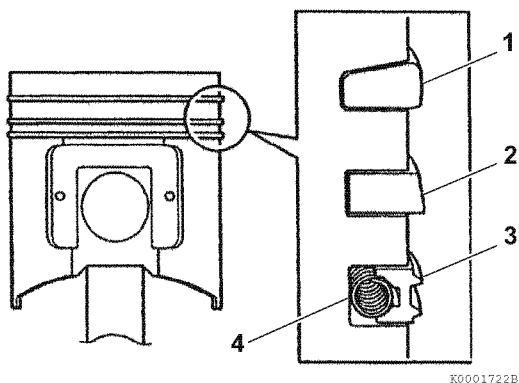

Figure 6-46
12. Remove the compression rings (1, 2, Figure 6-46) from the piston using a piston ring expander.
13. Remove the oil ring (3, Figure 6-46) and oil ring expander (4, Figure 6-46) from the piston using a piston ring expander.